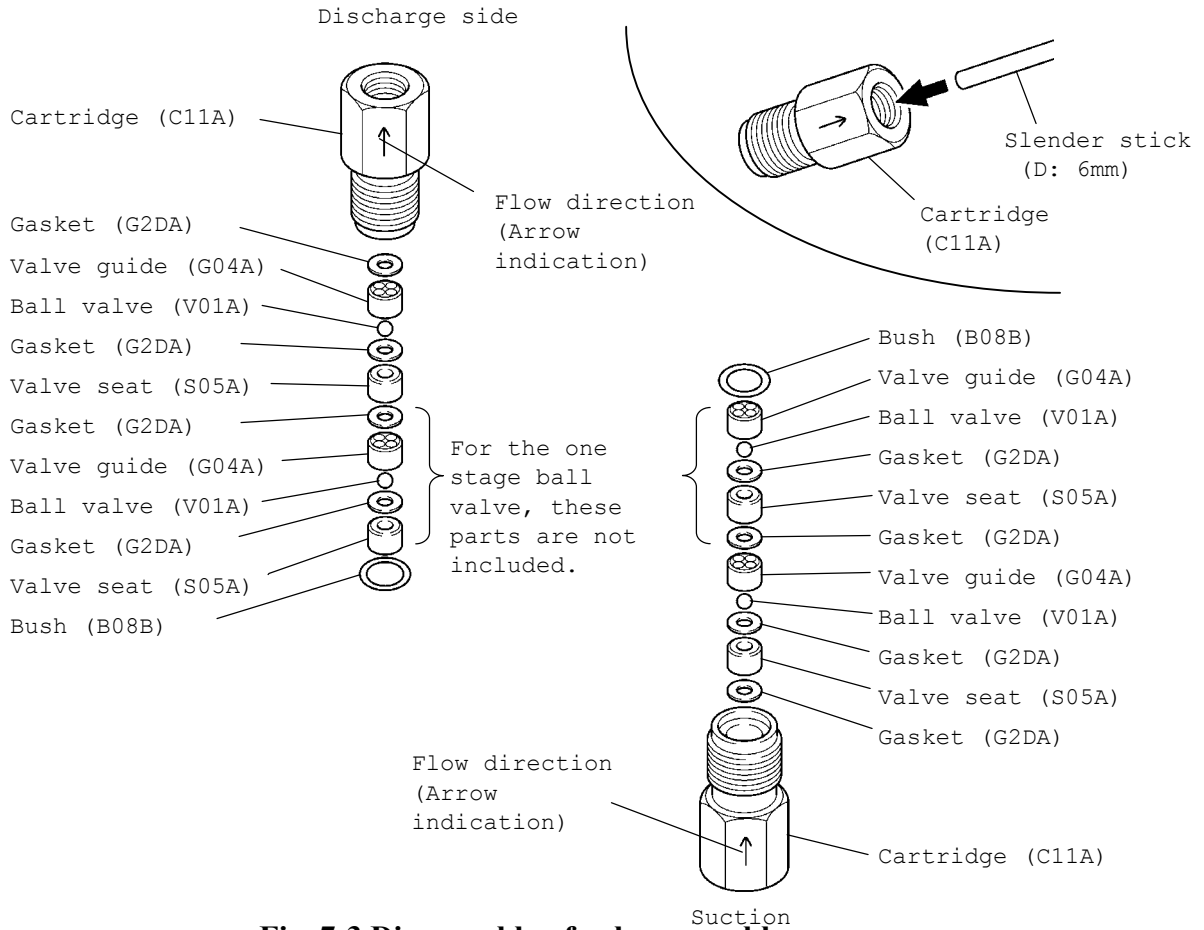

Fig. 7-3 Disassembly of valve assembly
- (1) When mounting parts of the cartridge, make sure that the position of each part and the direction of the valve seat correspond to those shown in Fig. 7-3 and in the cross section drawing.